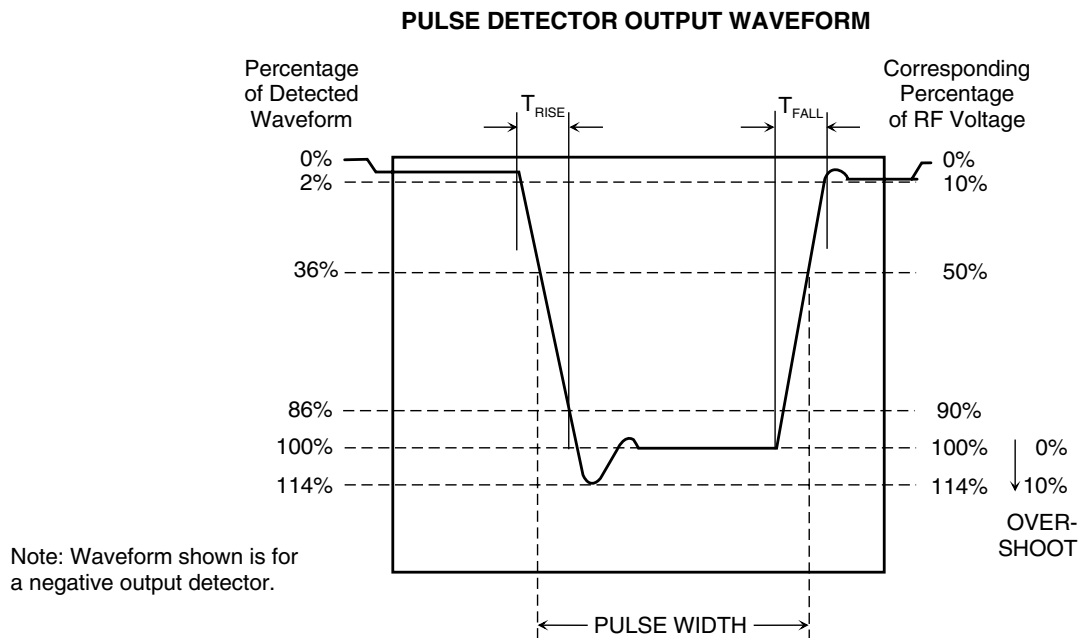

Figure 3-11. Measurement Parameters for a Pulse Modulation Waveform
2. On the Oscilloscope, turn off CH.4. Observe the output of the Pulse Detector on the Oscilloscope. Refer to Figure 3-11 to interpret the detector waveform. Adjust the Oscilloscope controls to measure the following waveform parameters.